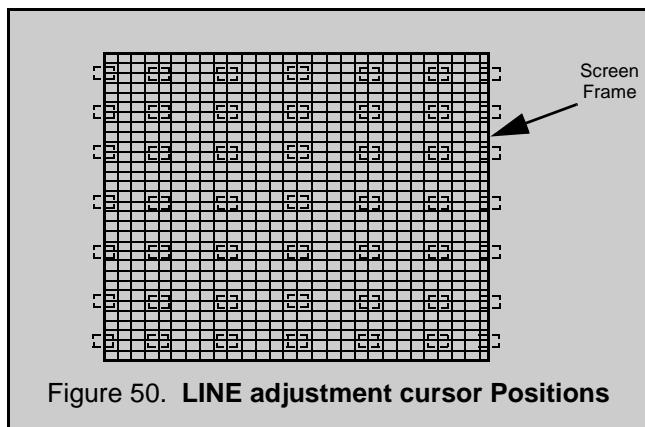

Figure 50. LINE adjustment cursor Positions
25. Begin adjustment from the center to the edge of the screen (see Figure 50)